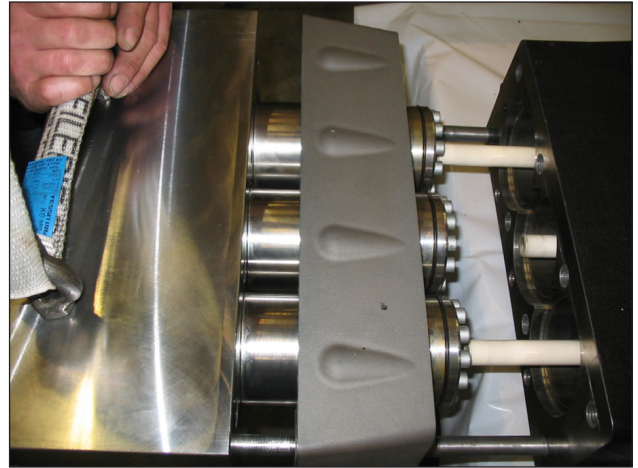

Fig. 109
Separate the head and the spacer for the liners from the pump casing (pos. ①, Fig. 109).